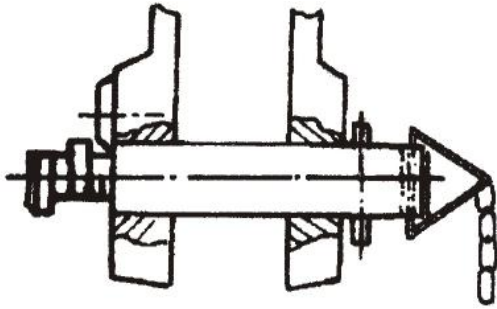

Fig2. Turn and push the fixed axis twice and let it enter the second tunnel
2. Anchor: Fixed axis is to be used to anchor the rope round the hoister. Connect the wire rope or the hanger with the fixed rope and tie the other end to the load, masts, etc. There is a relaxation proofing tunnel on the fixed axis. When the fixed axis is inserted the hoister case, it must be turned twice to the second tunnel till it is clamped tightly (Fig2). Then the operation can be done. Notice please. The end of the wire rope must be on the upper of the fixed axis so as to make the rope not block and move freely.